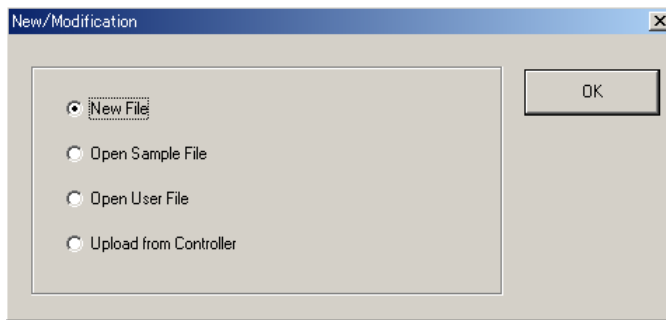
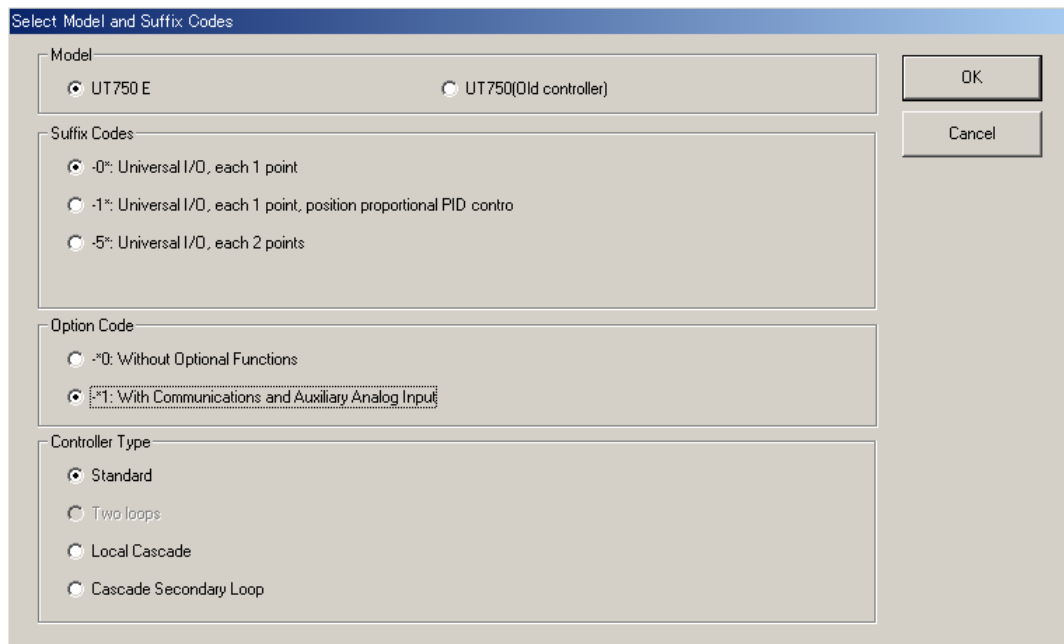
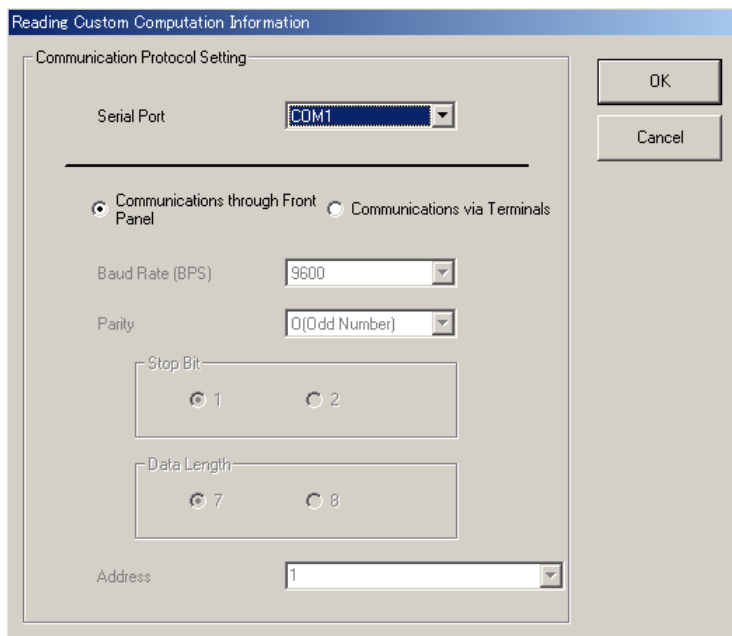

Figure 5.1.3 [New/Modification] Dialog Box
Figure 5.1.4 [Select Model and Suffix Codes] Dialog Box
Figure 5.1.9 [Reading Custom Computation Information] dialog box
The [New/Modification] dialog box (Figure 5.1.3) appears.
- (1) If you are configuring a custom display for the first time, choose <New File>. Click the <New File> option button, then the <OK> button. The [Select Model and Suffix Codes] dialog box (Figure 5.1.4) appears.
- (4) If you are configuring a custom display by uploading data from the controller, choose <Upload from Controller>. Click the <Upload from Controller> option button, then the <OK> button. The [Reading Custom Computation Information] dialog box (Figure 5.1.9) appears.
If you choose <New File> in the [New/Modification] dialog box (Figure 5.1.3), the [Select Model and Suffix Codes] dialog box (Figure 5.1.4) appears.
Click the <OK> button. The [Select Model and Suffix Codes] dialog box (Figure 5.1.4) appears.
If you choose <Upload from Controller> in the [New/Modification] dialog box (Figure 5.1.3), the [Reading Custom Computation Information] dialog box (Figure 5.1.9) appears.